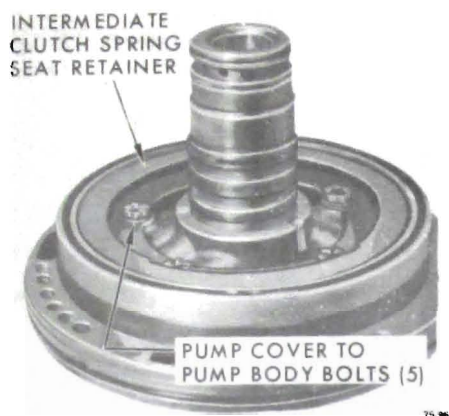

Figure 75-135
1. Place assembly through hole in bench. Remove five (5) pump cover to body attaching bolts. Remove spring seat retainer. See Figure 75-135.